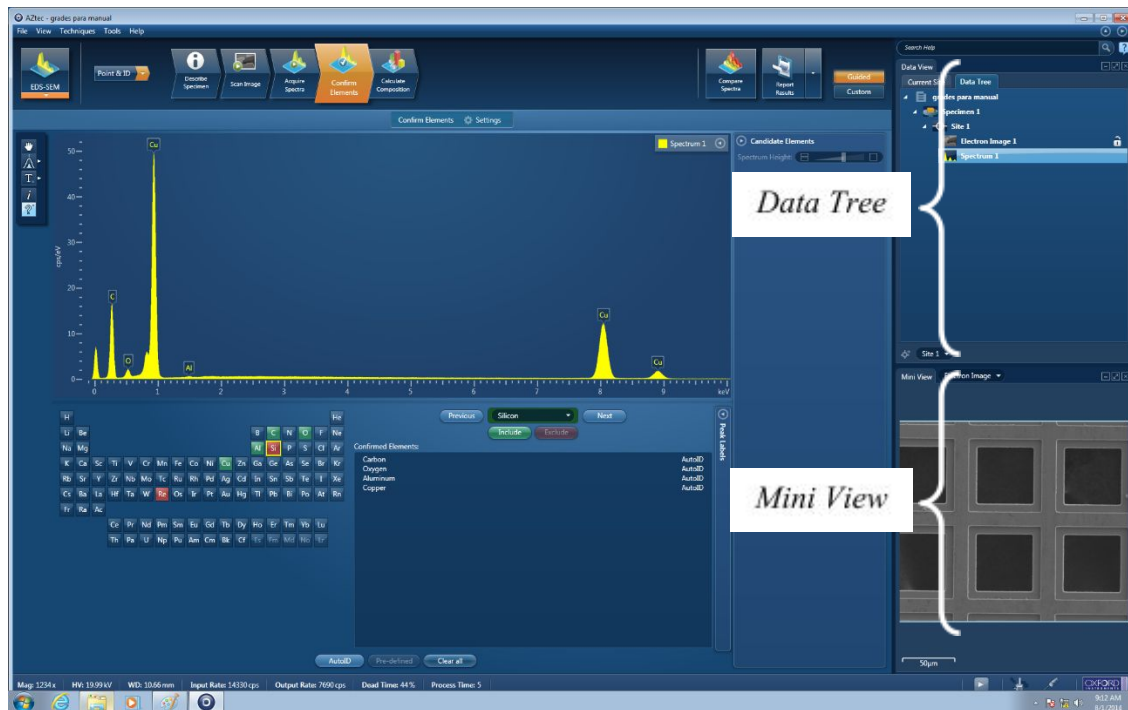

Figura 18. Abas "Mini View" e "Data tree".
- Figura 18. Abas "*Mini View*" e "*Data tree*".